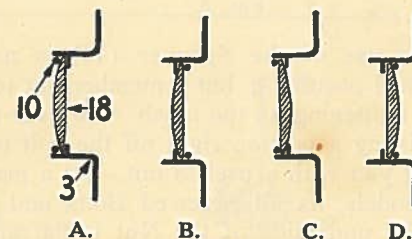
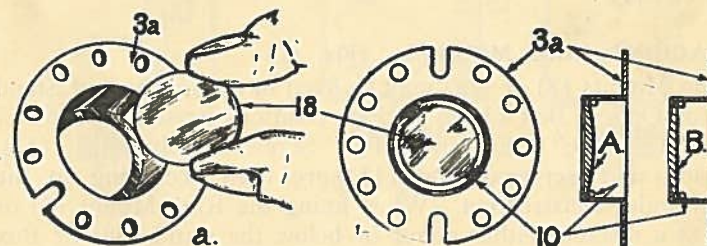

Fig. 1.
Fig. 2.
MOUNTING LENSES, STOPS AND DISCS. (Fig. 1 and Fig. 2.)
Fig. 1 shows how Lenses (17) and (18), Stops (37a) and (44), and Discs (9) (26-30) and (45), may be mounted in one of four positions in the Ring Mount (3). Fig. 2 shows how the Lenses, Stops, or Discs are mounted when using Ring Mount (3a). It will be seen from Fig. 2 "A" and "B" that the Plano-Convex Lens (18) can be mounted with either the Plane or Convex face towards the front of the Mount, according to the model; this arrangement is also shown at "A," "B," "C," and "D," Fig. 1. After inserting the Lens, Stop, or Disc in the Ring Mount, it must be secured by a Split Ring (10) pressed down evenly all round; Fig. 2 "b" shows the Split Ring in position in Ring Mount (3a). When handling Lenses, always *hold by the edges*, as at "a" Fig. 2, as grease and minute scratches are fatal to the